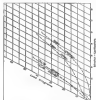

FIG. 6. LOAD-STRETCH RELATIONS OF STANDARD ENGLISH THREAD & AIRPLANE LINEN
**Tensile Properties.** The load-stretch relations of a standard English thread & airplane linen are shown in Fig. 6. It will be noted that the draped-fabric curve is practically a straight line, the draped yarn curve shows a distinct yield point, as is indicated by the reversal of the curvature of the fabric.